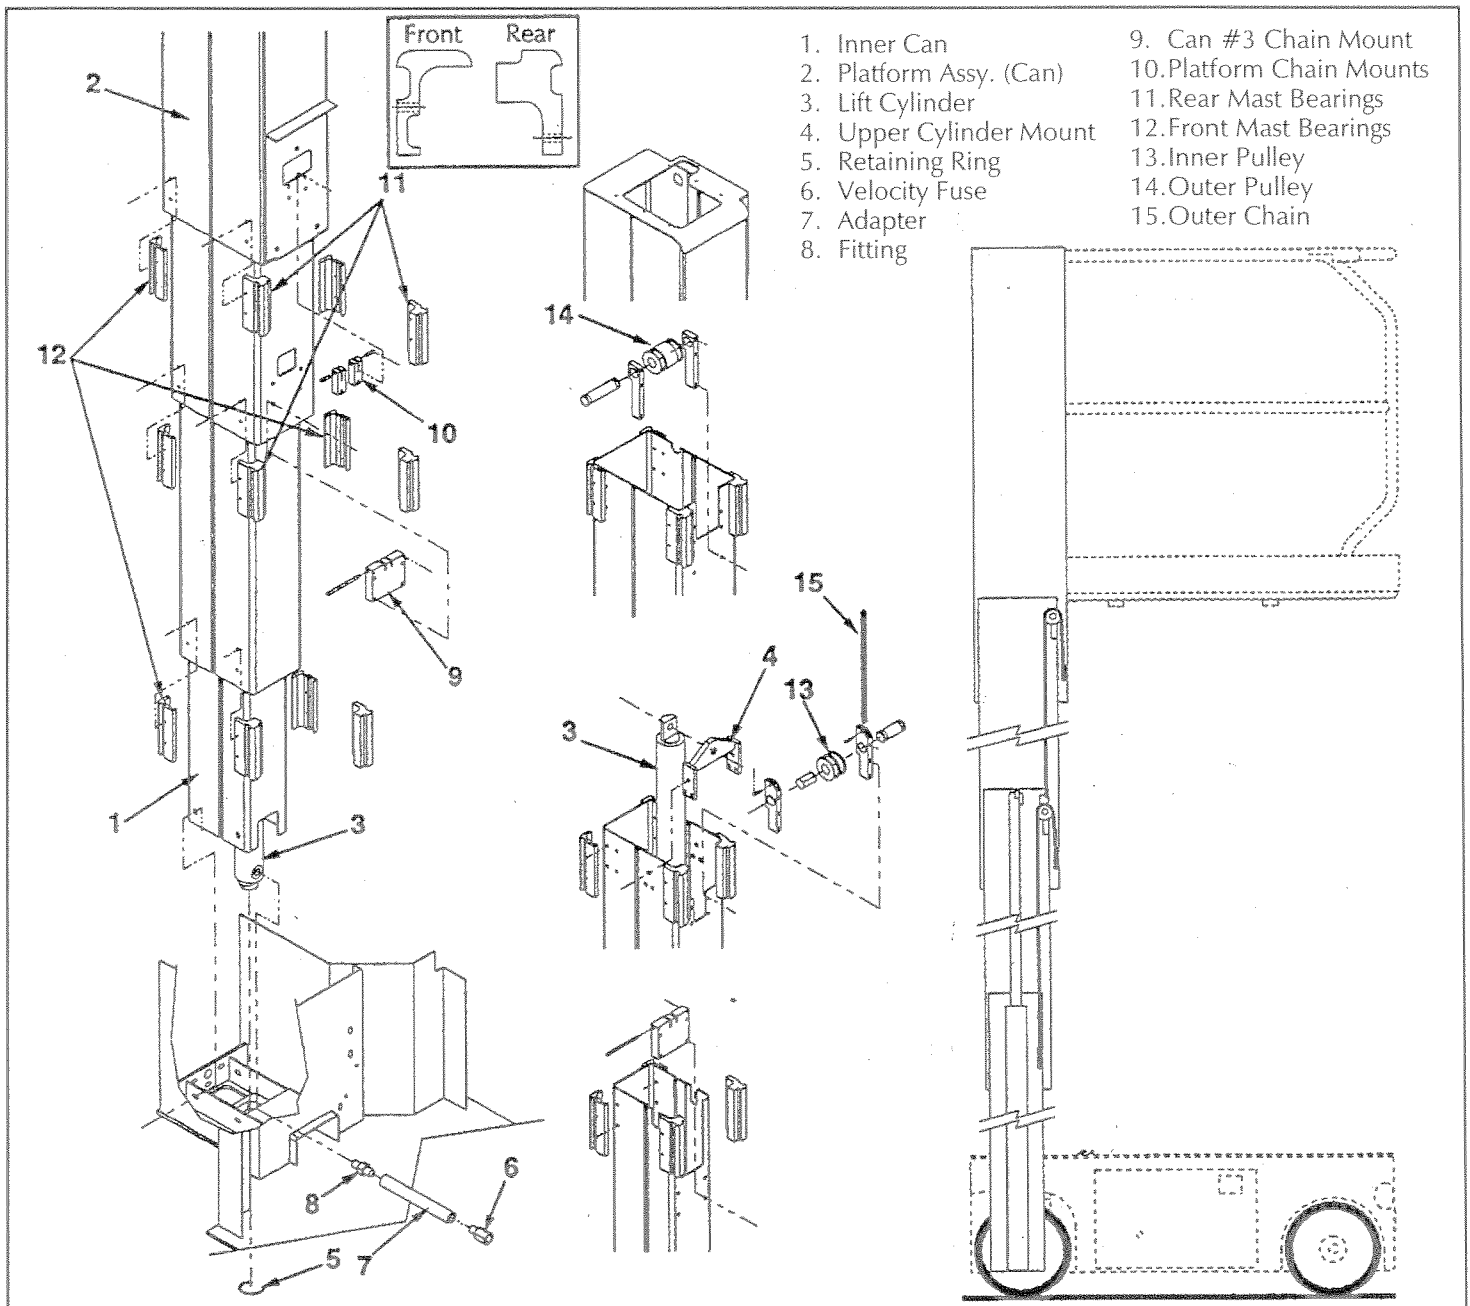

Figure 3-13: Mast Assembly
### INSTALLATION (Figure 3-13)
## 3.13 Mast Assembly (figure 3-13)
4. Install the lower mast bearings, refer to Figure 3-13 to help determine front and rear bearings.